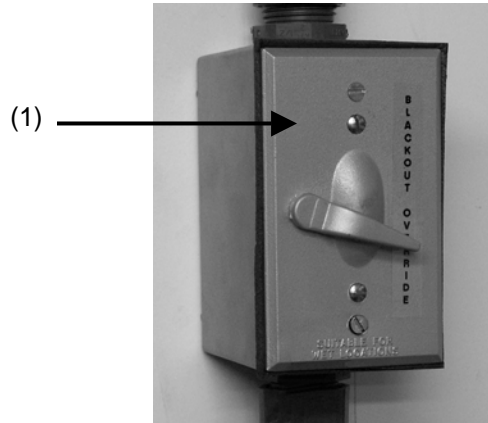

Figure 2-23. Blackout override switch.
2. Place blackout override switch (1) to OFF position (Fig. 2-23).